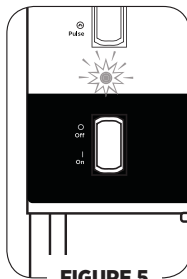

FIGURE 5
The machine will shut off automatically at the end of the programmed cycle. When the program is within 4 seconds of completion, the LED Indicator light will blink so preparation can begin to remove the cup from the agitator. The blinking light will get progressively faster to indicate that the program cycle is almost complete and the machine will shut off. This provides an indication, so that excess product can be spun off the agitator. See Figure 5.
• **For Mix'n Machine Advance Timer Model:** The machine will shut off automatically at the end of the preset time. When the program is within 4 seconds of completion, the LED Indicator light will blink so preparation can begin to remove the cup from the agitator. The blinking light will get progressively faster to indicate that the program cycle is almost complete and the machine will shut off. This provides an indication, so that excess product can be spun off the agitator. See Figure 5.